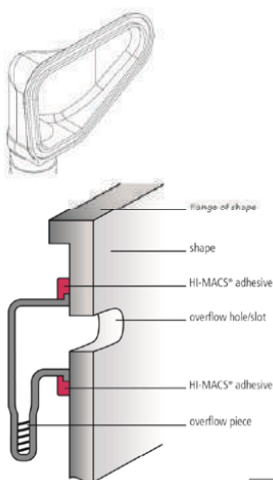

Figure 1
2. Use a WHITE HIMACS adhesive and place an adhesive bed around the plastic part as per figure 1.